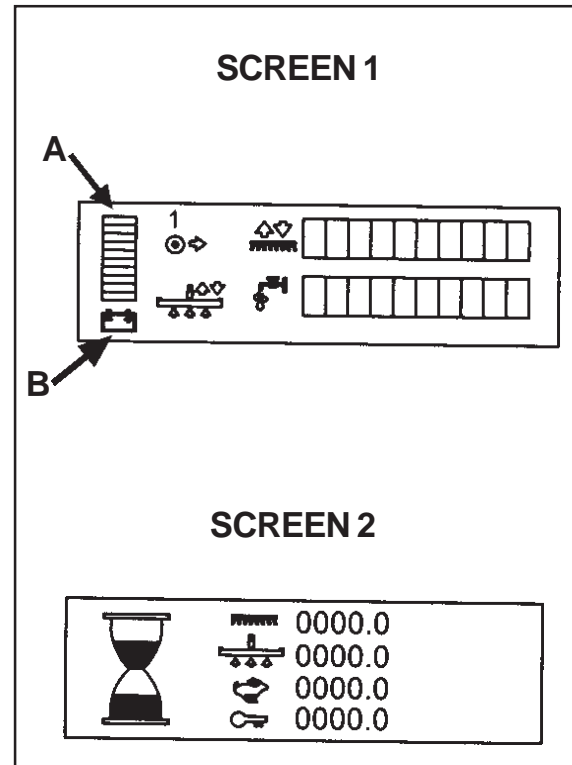

Figure 20
3. To adjust the suspension of the seat for operator comfort, use the lever on the side of the back support section of the seat. This has three positions. The upper position is for light weight operators. The middle position is for medium weight operators. The bottom position is for heavy weight operators. See figure 20, B. **NOTE: The lever must be pressed firmly to change positions.**
How to Read the Battery Meter (see figure 20, A)
The LCD display has three screens. Two of them can be accessed at any time the key is on. The first screen shows the machine status and the second screen shows the four hour meters (figure 20).